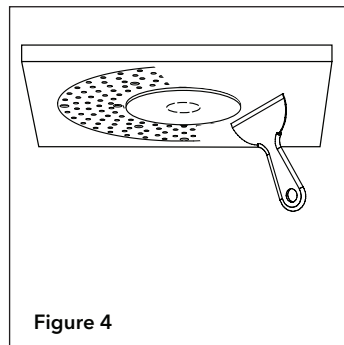

Figure 4
Step 4. Finish ceiling by plastering over mud ring (Fig. 4).